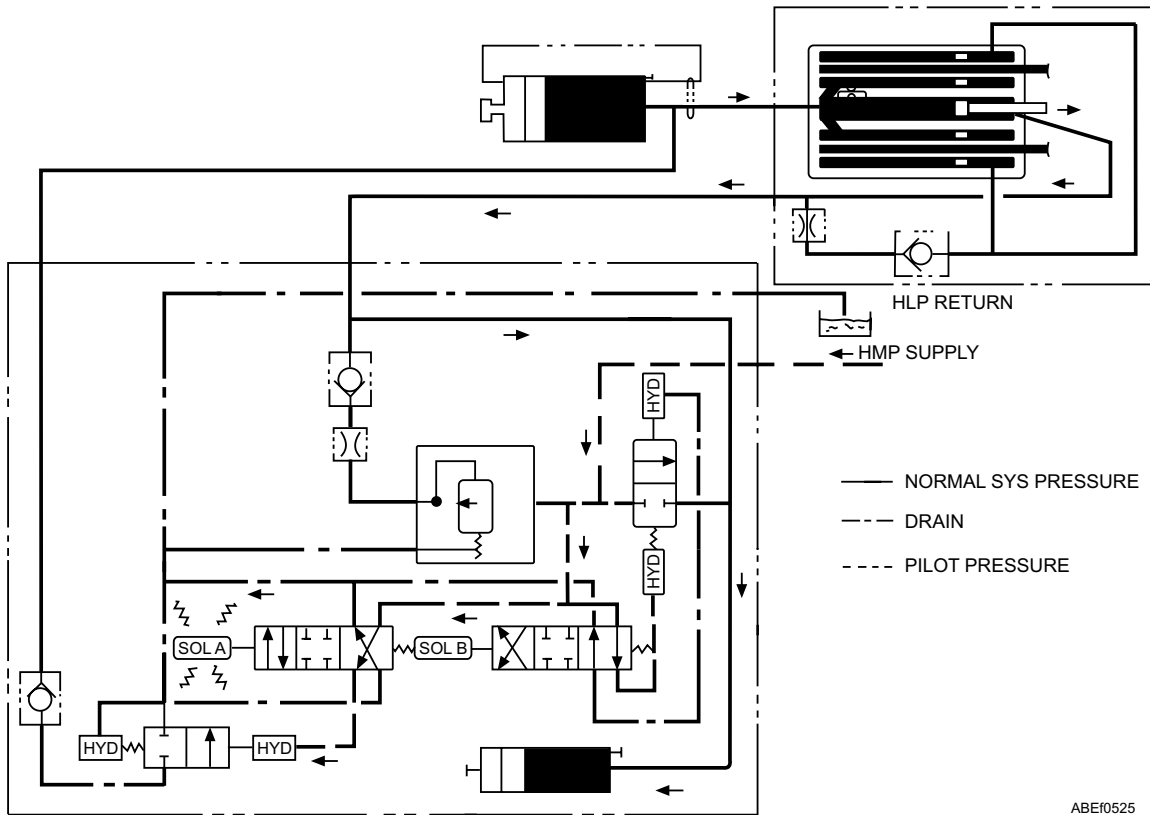

Figure 5-25.—Abort aircraft-buffing forward cycle.
When the BUFFER FWD push button is pressed, the buffer forward solenoid (A) is energized (fig. 5-25), shifting the buffer forward solenoid valve, allowing medium-pressure hydraulic fluid to shift the piston of the flow control valve. When the piston of the flow control valve shifts, fluid flow from the aft end of the buffer cylinder assembly to the gravity tank is shut off. This causes a pressure buildup on the aft end of the buffer cylinder assembly pistons. Since the area on the aft side of the pistons is larger than the area on the forward side, the pistons, piston rods, and attached slide assembly are driven forward.